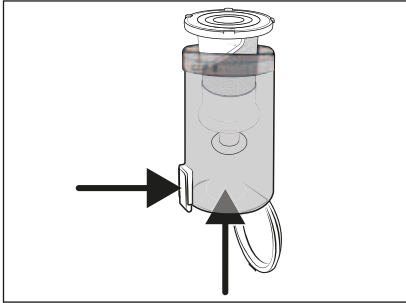

Fig. 18
- 3) Remove the stainless steel filter **5** from the dust container **6** by pressing the dirt container lid release button **7**. Then slide the stainless steel filter **5** out of the dust container **6** from below (see Fig. 18).